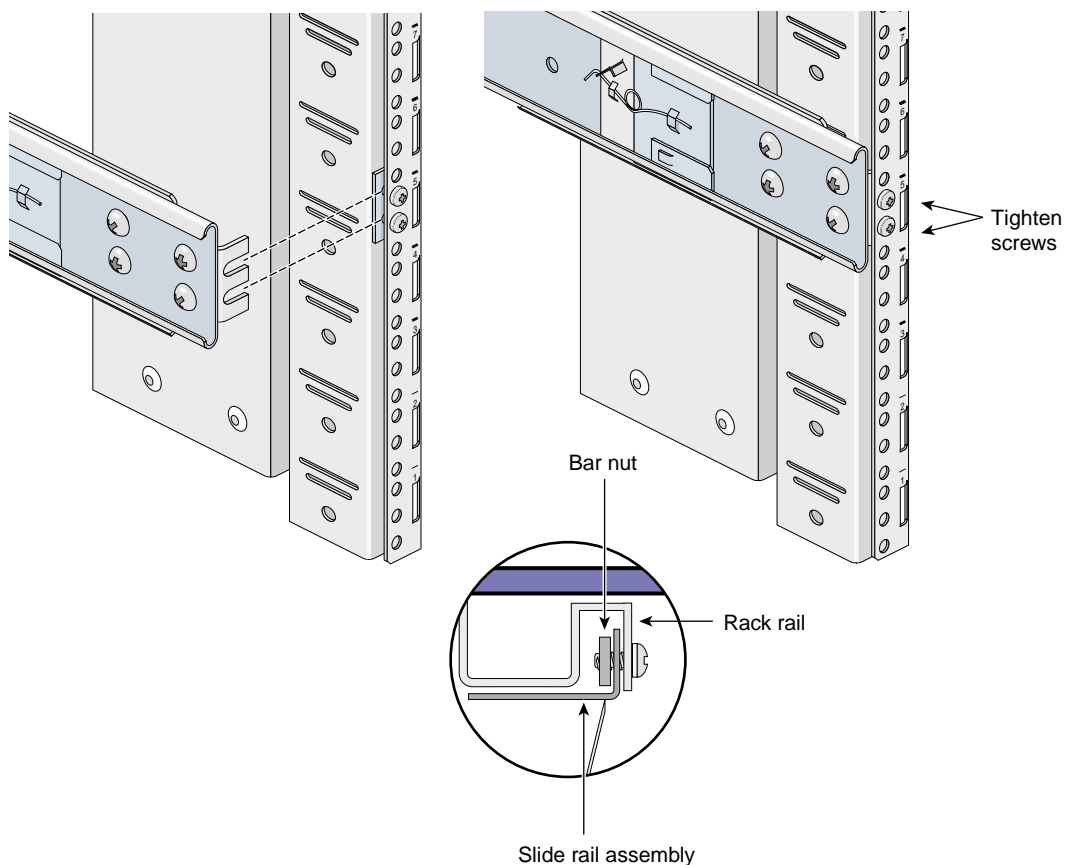

Figure B-6 Attaching the Slide Rail to the Rack
5. Insert the front and rear brackets of one of the slide rails between the rack rails and the bar nuts, as shown in Figure B-6.